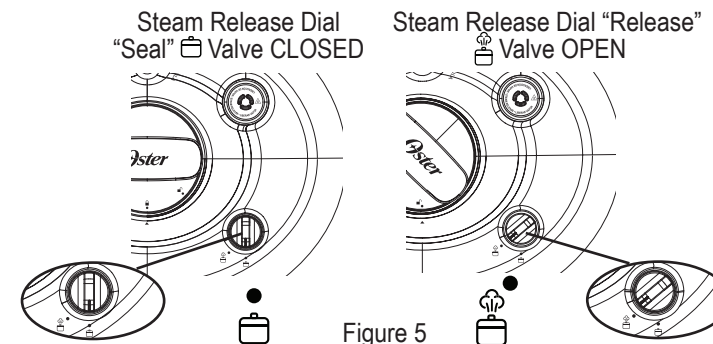

Figure 5
- A. **Natural Pressure Release Method:** After cooking cycle is complete, let Cooker naturally release pressure through the Bobber Valve. Unit will gradually cool down on its own. Wait at least 10 minutes after cooking has completed, and then rotate the Steam Release Dial to the “Release” position (see Figure 5). Do not place any part of your hand or body over the Steam Release Valve, as steam is very hot and can scald skin. The pressure has been released when steam is no longer escaping from the valve, the Bobber Valve has dropped completely, and the Lid opens freely with minimal force. This can take up to 10-20 minutes. **Never force the Lid open.**
- B. **Quick Pressure Release Method:** Rotate the Steam Release Dial located at the front of the Lid to the “Release” position (see Figure 5). Steam will release rapidly from the Steam Release Valve on the back of the Lid. Do not place any part of your hand or body on or over the Steam Release Valve, as steam is very hot and can scald skin.